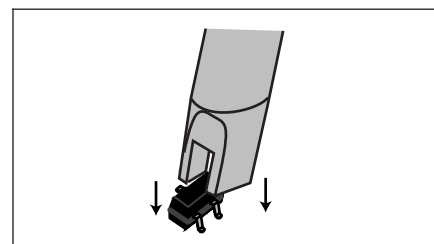

Figure 3 Position Tip
7. Lower tip over component contacting ALL leads with tip. (See Figures 3 & 4.)